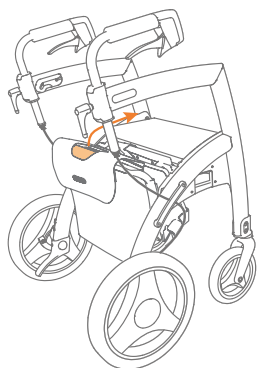

Figure 40: Pull the backrest upwards and forwards.
- b. To convert the walker to an electric wheelchair, the wheelchair package needs to be pulled up. Take the handle of the wheelchair package and pull slightly up and towards the front until halfway up the frame **(Figure 40)**.